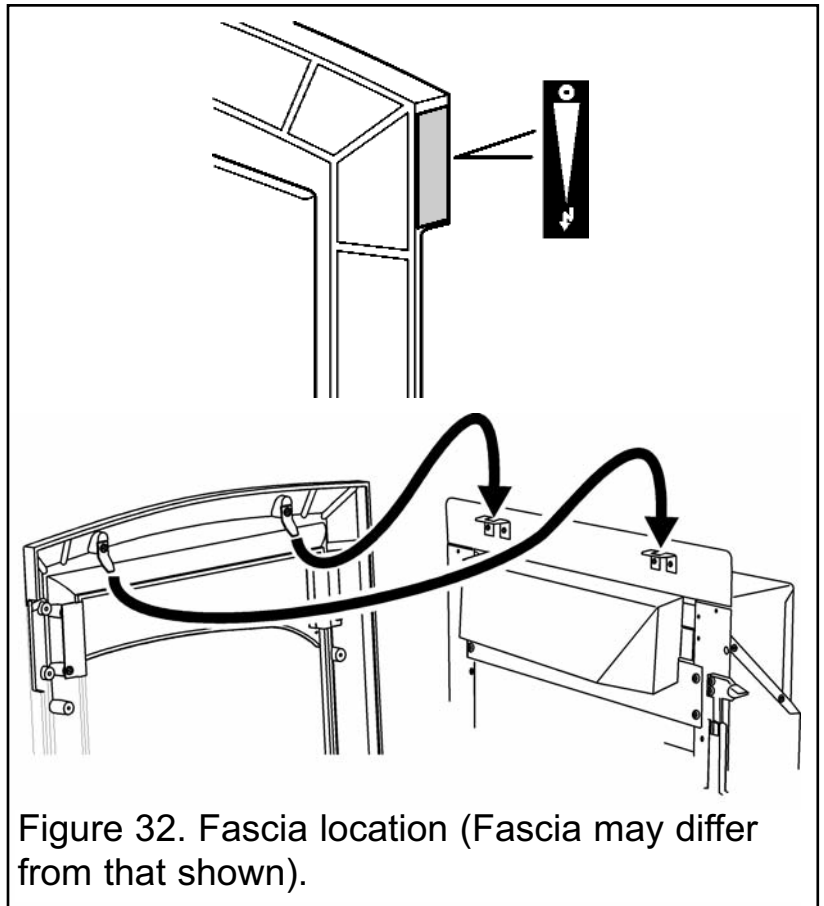

Figure 32. Fascia location (Fascia may differ from that shown).
1. Supplied with the fire is a self adhesive control position label. Peel the backing from the label and place as in figure 32.
2. Place the fascia against the fireplace front surface so that the two retaining plates at the back of the fascia are above the two upper retaining brackets at the top of the convection box. Lower the fascia making sure that the rear retaining plates locate fully into the retaining brackets on the convection box (See figure 32). If the inlet pipe runs along the front of the fireplace, the bottom of the fascia will have to be swung forwards to clear the pipe while lowering the casting.